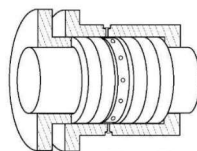

Figure 5)
8) IF THE STUFFING BOX HAS A LANTERN RING, make sure that the lantern ring, as installed, is slightly behind the fluid inlet so that it will move under the inlet as the follower pressure is applied. See Figure 5.